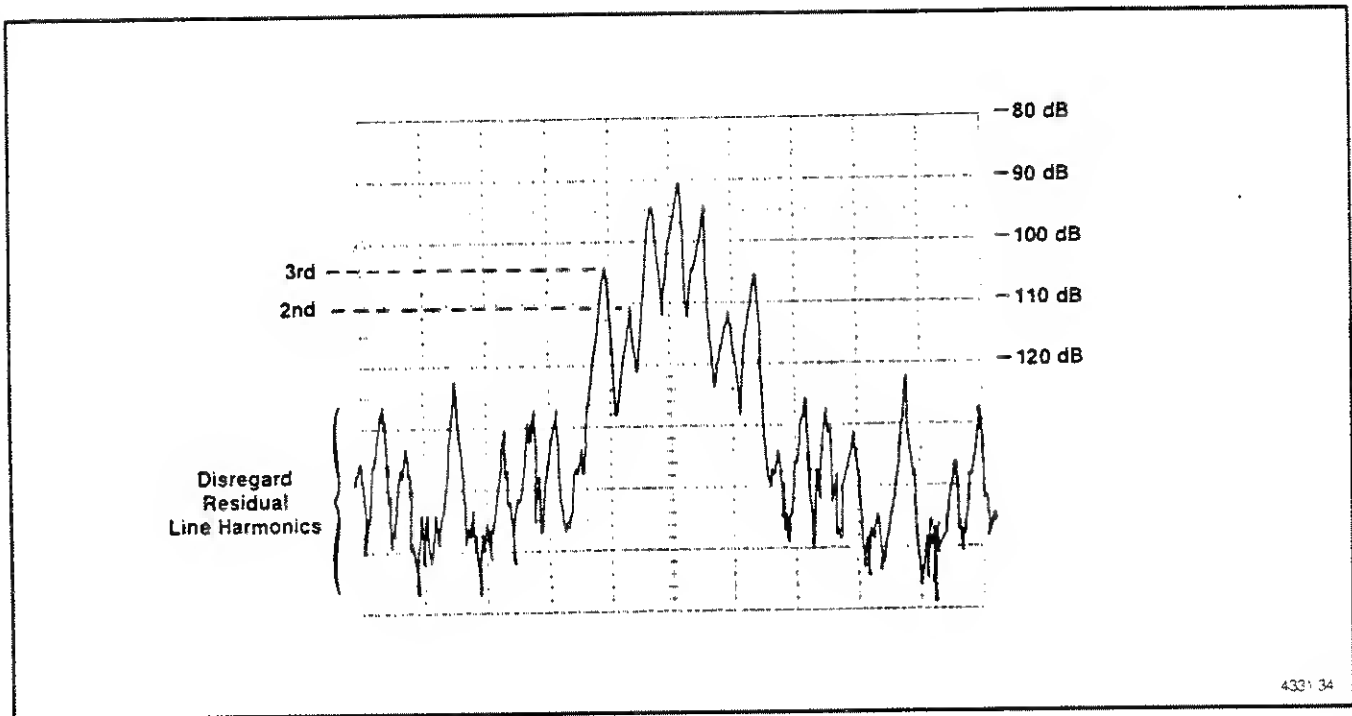

Fig. 5-6. 20 Hz harmonic distortion display.
h. Repeat steps 13-b through 13-e using the 20 Hz graticule mark on the display for step 13-b (see Fig. 5-6).
i. CHECK—that the calculated thd is less than  $-102$  dB (see Fig. 5-6 for harmonics at 20 Hz).